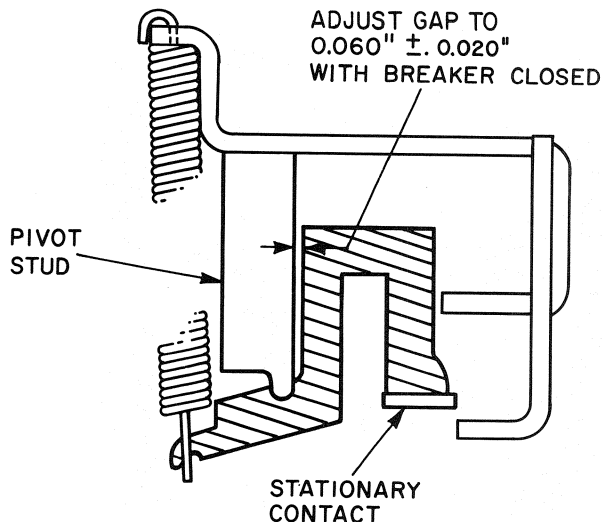

Fig. 7. AKR-30 wipe adjustment - view from top of breaker
4. Select one pole and, using a flat or wire feeler gage, measure the gap between the top contact and its pivot stud as shown in Fig. 7. As necessary, adjust the gap to 0.060 ± 0.020 inch by turning the wipe adjustment stud.